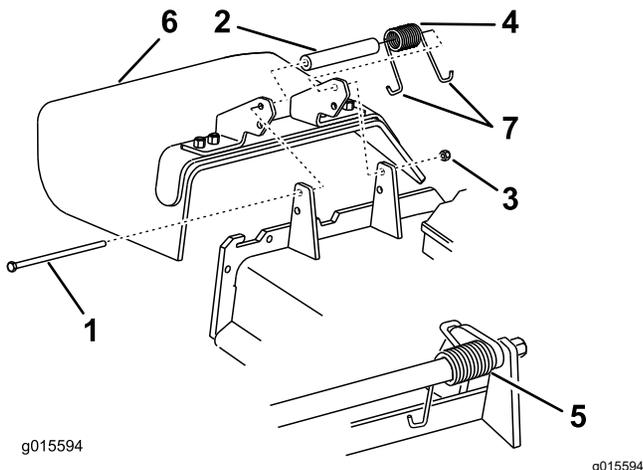

Figure 111
6. Place 1 J-hook end of the spring around the grass deflector (Figure 111).
1. Remove the locknut, bolt, spring, and spacer holding the deflector to the pivot brackets (Figure 111).
2. Remove the damaged or worn grass deflector (Figure 111).
Note: Make sure that 1 J-hook end of the spring is installed behind the deck edge before installing the bolt as shown in Figure 111.